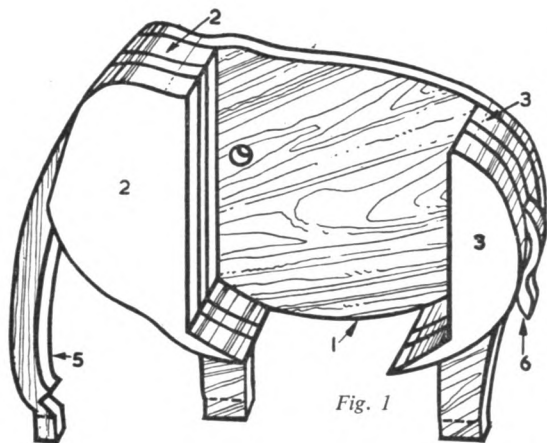

Fig. 1
The two outside pieces of the animal (pieces 1) are identical in shape. After cleaning up the parts thoroughly, make a start on the assembly by gluing the trunk section (5) in between two pieces 2. Similarly glue the tail section (6) between two pieces 3. These assemblies are then glued between the two pieces 1, a stage of which is shown in Fig. 1. Set aside this portion for the glue to dry thoroughly.